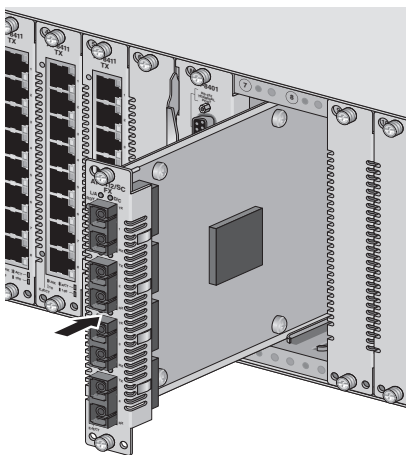

Figure 5. Installing an AT-8412 Line Card
7. Align the edge of the line card with the top and bottom guide rails before carefully sliding the line card into the slot. See Figure 5 below. Keep sliding the line card forward into the slot until the faceplate is flush with the front of the chassis. Avoid touching the line card components.